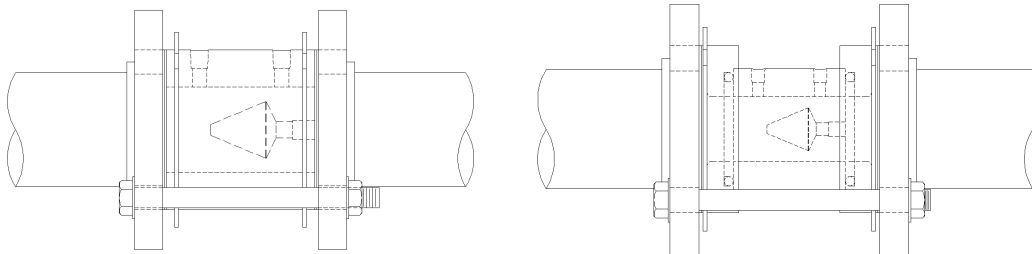

Figure: 13 (Bolts removed for clarity)
Step 4	Install bolts into two of the upper bolt holes in the same pattern as the lower two. Snug the bolts in an alternating pattern while checking alignment of the meter and gaskets. When all components are secured in place, install the balance of the bolts as required and tighten using the appropriate tightening sequence. Examples of installed meter assemblies are shown below (Figure: 13).